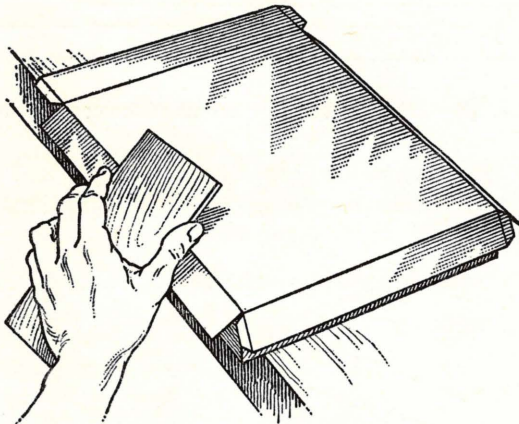

Fig. 119—Brake the corners for the metal box over a block
- (b) Brake the metal on the lines over the wood block, using another block of wood to bend the metal. (See Fig. 119.)
4. Brake the metal on the corners over the edge of a bench or table. (See Fig. 119.)